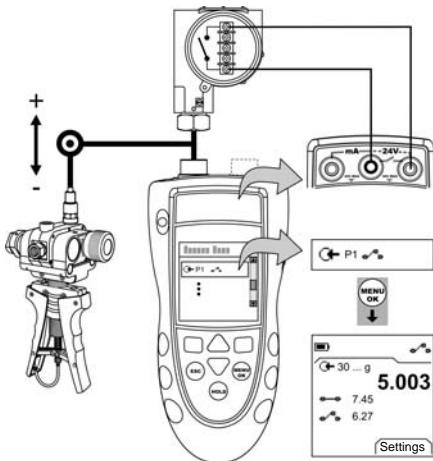

Figure 4: Example configuration - Switch test
1. Connect the instrument (Figure 4) and, if necessary, adjust the Set Up (Table 1).